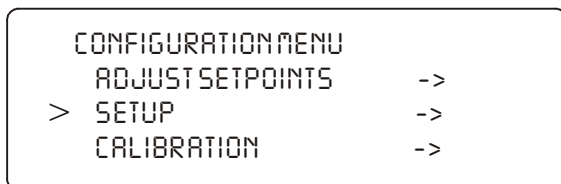

FIG. 299: CONFIGURATION MENU/SELECTING SETUP
- From the Front panel of the HI 3000 Series Instrument press the Setup/3 button. The Configuration Menu appears. (See Fig. 299)